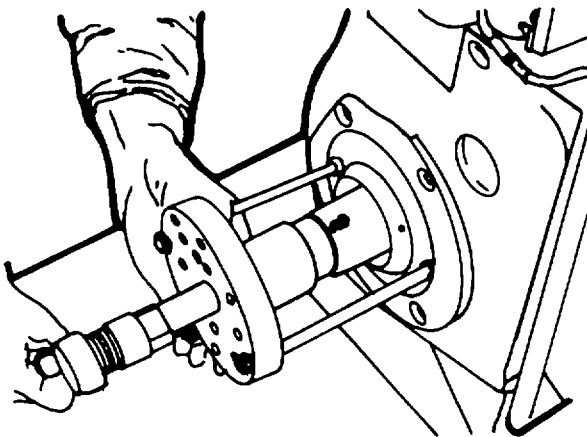

Figure 5-56. Removing End Shield
1. Remove the starter mounting flange. Remove the studs securing the rear end shield and withdraw the end shield with puller device No. 003-0672 (figure 5-56).